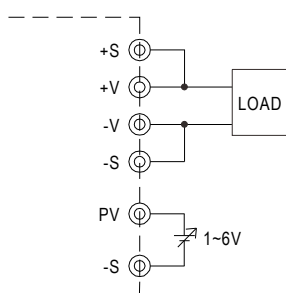

Fig. 3.1 Add on 1~6V external voltage
- (1) Connecting an external DC source between PV & -S on CN1 or CN2, and +S & +V, -S & -V also need to be connected that is shown in Fig. 3.1.